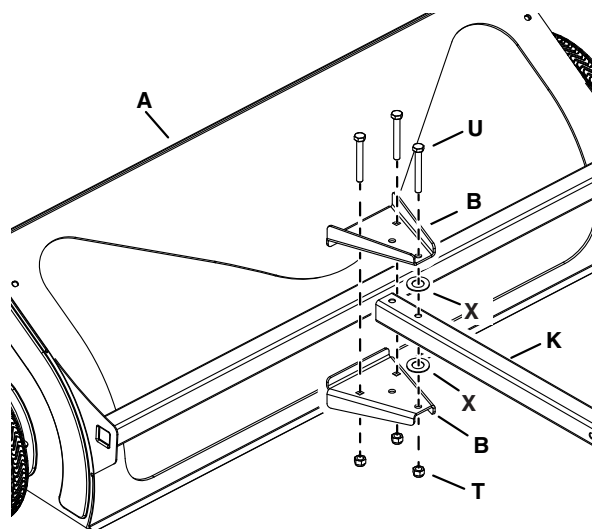

Figure 1
- (2) 1/2" Wrenches
STEP 1: (SEE FIGURE 1)
- Attach the drawbar brackets (B) to the drawbar (K) and sweeper housing (A) using 5/16-18 x 2-1/2" hex bolts (U), 1" washers (X), and 5/16-18 nylock nuts (T). Do not fully tighten the hardware.